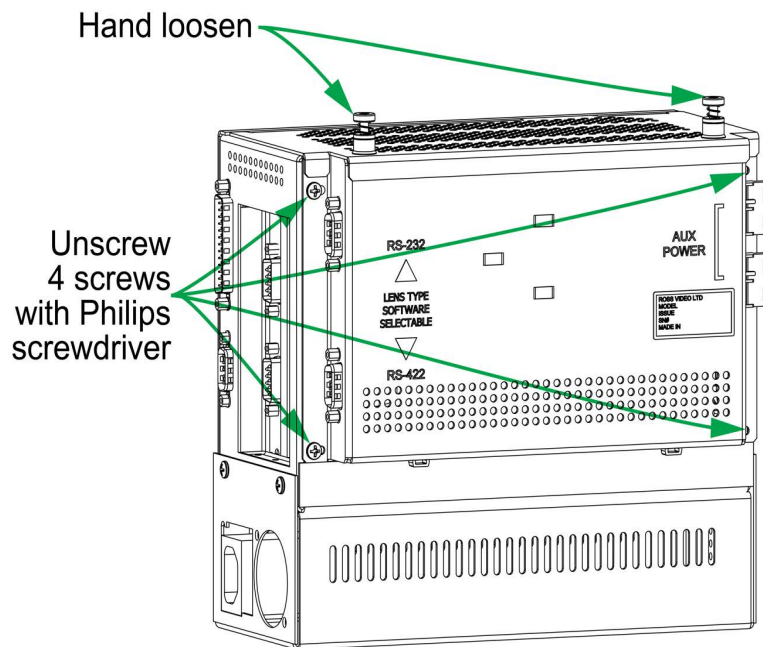

Figure 14 - Vent and side plate removal
2. Remove the four screws on the side plate with a Phillips head screwdriver, as shown in **Figure 14**.
1. Tighten the four screws on the side plate with a Phillips head screwdriver, as shown in **Figure 14**.